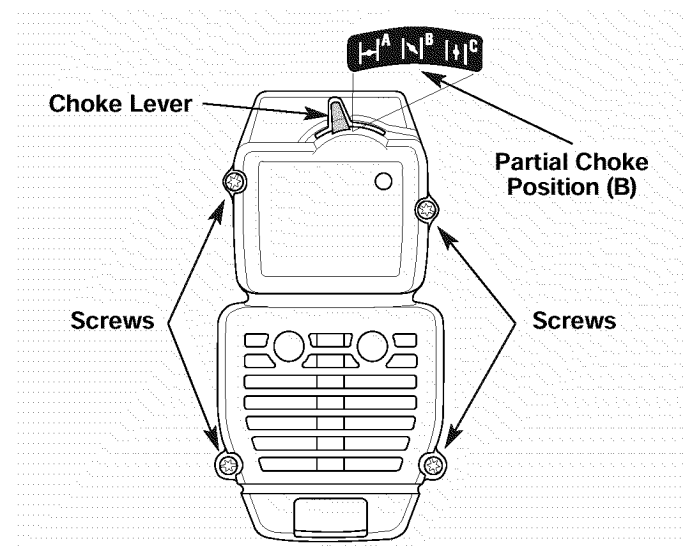

Fig. 27
1. Place the choke lever in the **PARTIAL** choke position (B).
- NOTE:** The choke lever must be in the **PARTIAL** choke position (B) to remove the air filter/ muffler cover.
2. Remove the four (4) screws securing the air filter/muffler cover (Fig. 27). Use a flat blade or T-20 Torx bit screwdriver.
2. Insert the four (4) screws into the holes in the air filter/muffler cover (Fig. 27) and tighten. **Do not over tighten.**